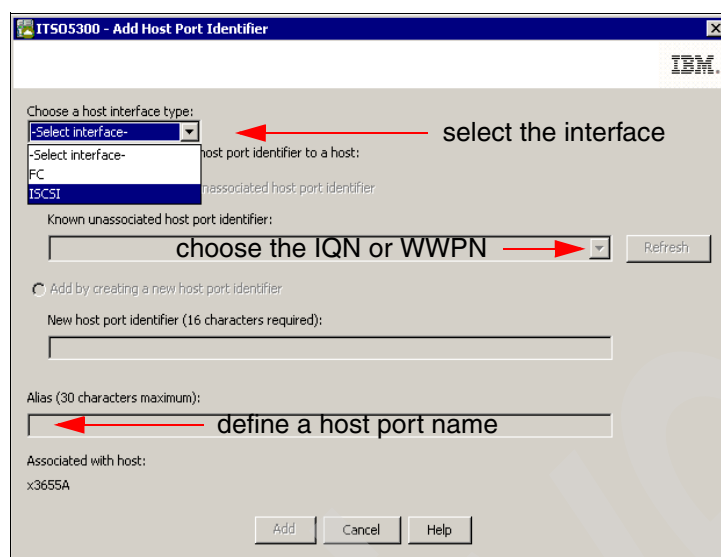

Figure 5-37 Add Host Port Identifier
2. From the Add Host Port Identifier window, select the interface, known IQN, or WWPN from the Known unassociated host port identifier drop-down list and define a host port name. (see Figure 5-37).